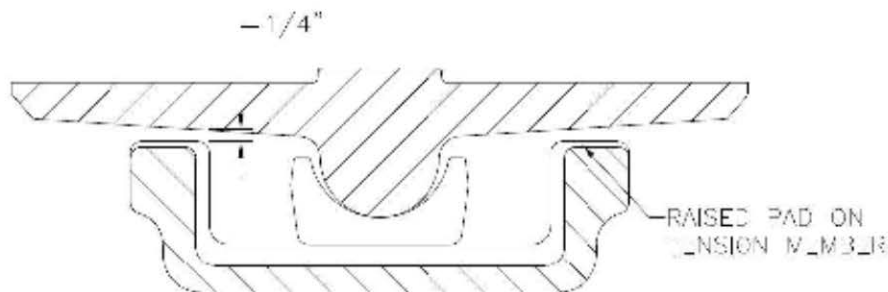

Fig. 3
- 3.a. Inspection of clearance between underside of rocker seat and raised pads on side frame bottom tension member is required. A $1/4"$ thick feeler must pass thru rocker seat and raised pad on tension member when side frames are in neutral position (side frames are to be perpendicular to top of track rails) see Figure 3. When $1/4"$ feeler does not pass thru maintenance is required. See Part III, Section A for procedure to restore this clearance.